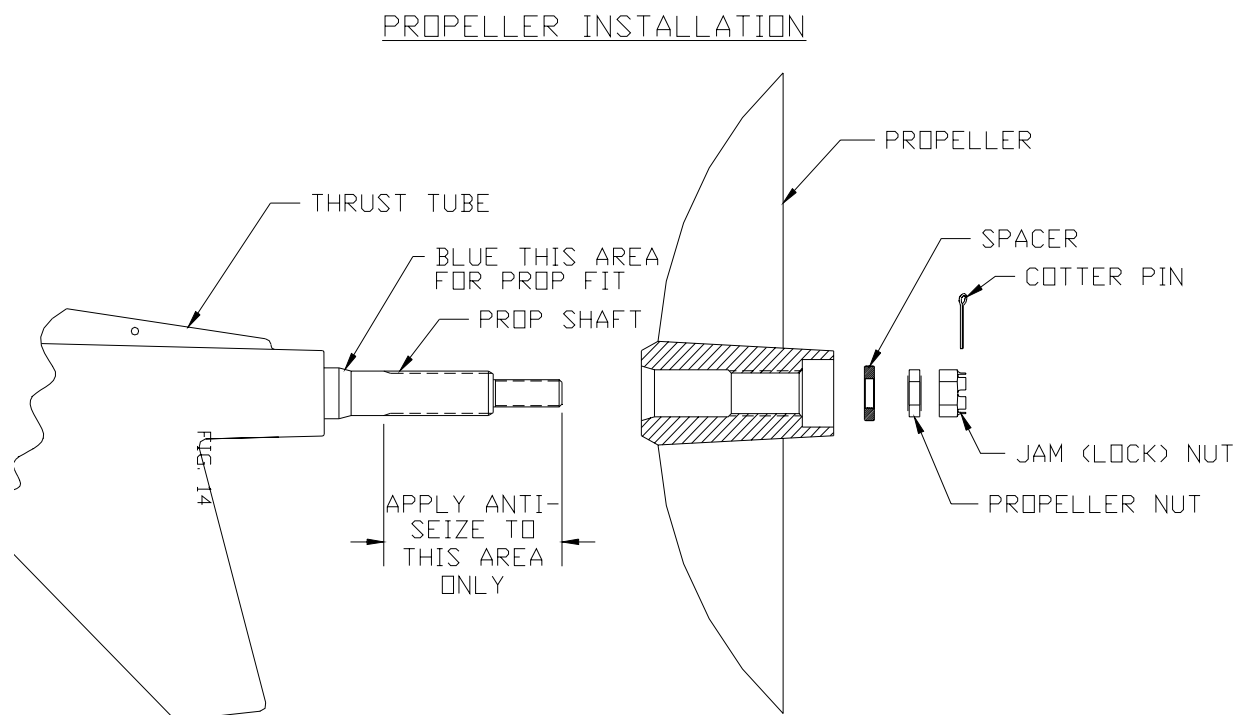

Figure 102. Propeller Installation
1. Apply a thin coat of anti-seize lubricating compound to the propeller shaft as shown in Figure 102.
2. Install the propeller, thrust washer, propeller nut, lock nut, on the shaft as shown in Figure 102. Torque the propeller nut to 1220 N-m (900 ft.-lbs). Torque the jam (lock) nut to 860 to 1000 N-m (634 to 738 ft.-lbs). Approach the lower value, then continue until a cotter pin slot in the nut aligns with the hole in the shaft. Install the cotter pin.